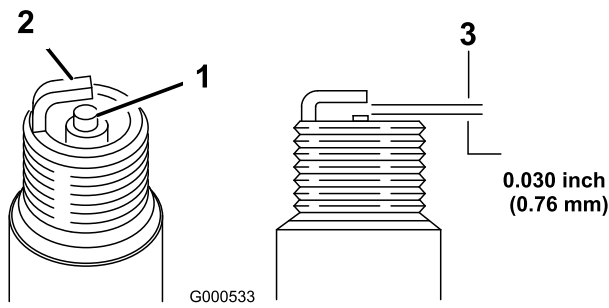

Figure 26
5. Set the gap on the plug to 0.030 in. (0.76 mm); refer to Figure 26.